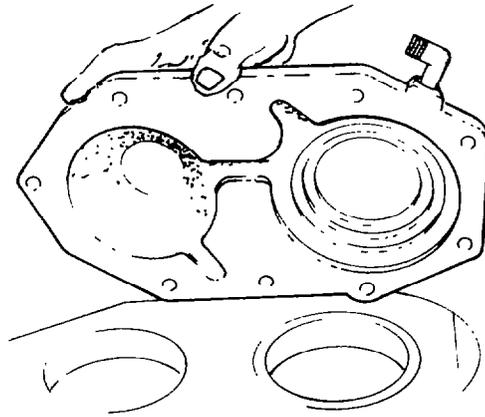

Fig. 237 — Removing Front Bearing Cover
- ad. Remove the mainshaft and counter shaft front bearing cover (see fig. 237).